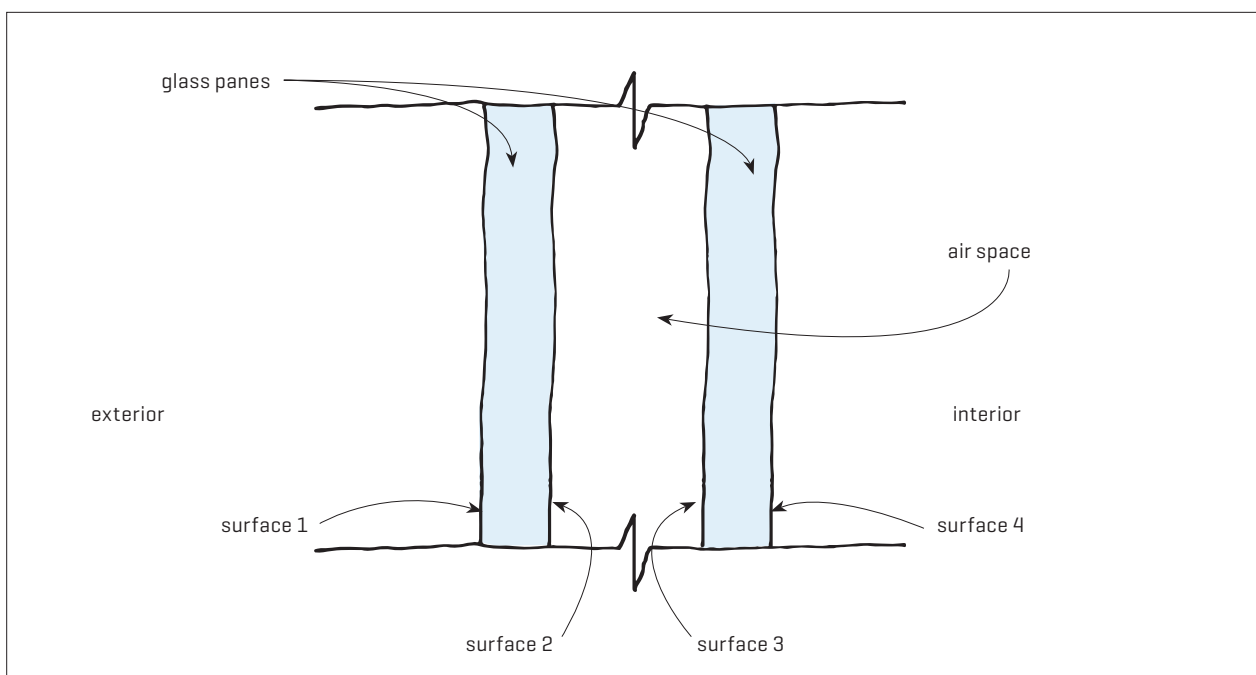

Figure 1. Surfaces of an IGU.
2.0.6 Coatings are applied to different surfaces depending on requirements. Reflective coatings are typically applied to the outside surface. Low-e coatings perform best when used in insulating glass units (IGUs) and should be on an inside surface, typically surface 2, where they are protected from possible damage (Figure 1).